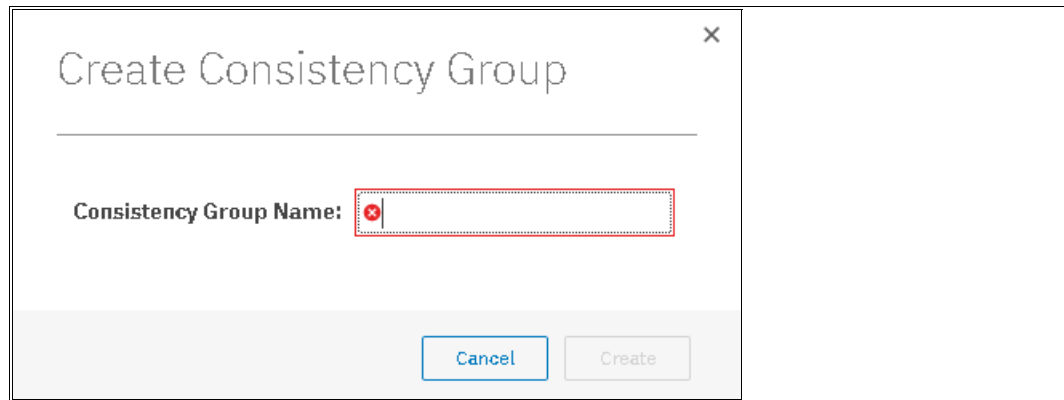

Figure 10-98 Enter a Consistency Group name
3. Enter a name for the Consistency Group, and then, click **Next**, as shown in Figure 10-98.